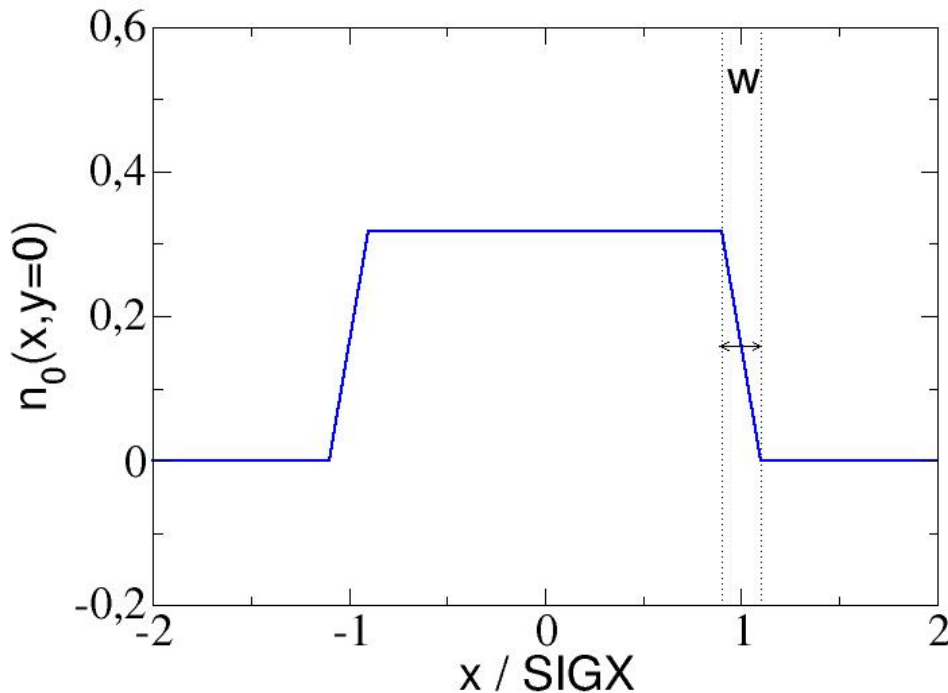

Figure 10.2: Trapezoidal shape of radial density for beam-beam lens.
- **BBSHAPE=2**: trapezoidal shape (see fig.10.2), **SIGX**, **SIGY**: half width of density profile, i.e. distance from the centre to half edge region with linear decrease of density in horizontal, vertical direction. Still only circular opposite beam possible, i.e. in the calculations  $SIGX' = SIGY' = (SIGX + SIGY) / 2$  is used, if **SIGX** and **SIGY** have different values.